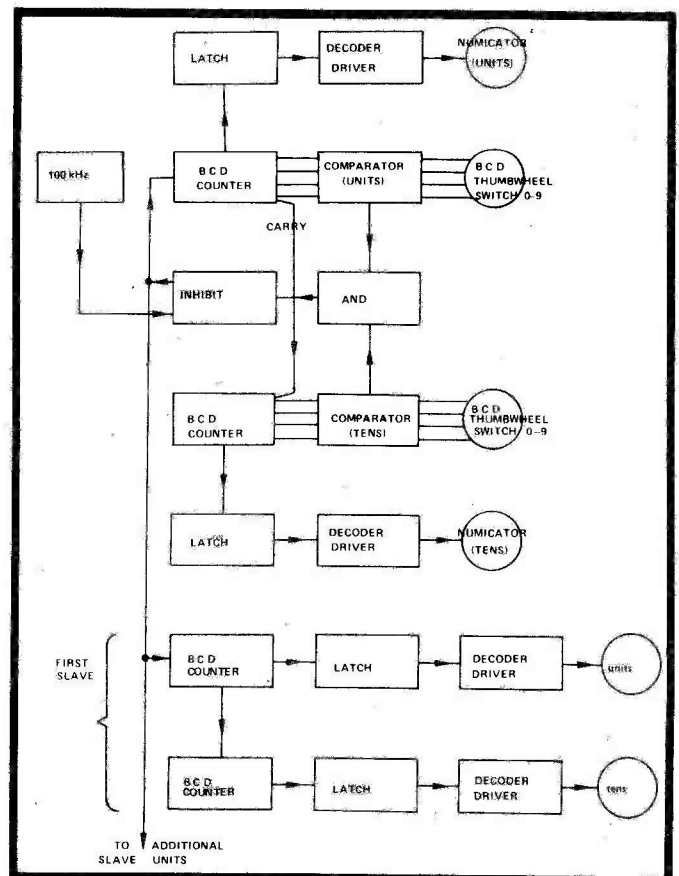

Fig. 1. A numicator-based paging system.
Broadly speaking there is a choice between sending a rapid pulse-train to count from zero to the number required when the master controls are set, or alternatively arranging for the slaves merely to copy the central indication, without going through all the intermediate numbers. The former method fits in more readily with the use of only two wires, apart from power supplies, between the master and each slave, since to send BCD numbers over two wires would call for scanning and serial transmission. One possible method using numicators for silent operation is outlined in Fig. 1 (see also ref. 3). In this method, a multivibrator or u.j.t. pulse generator operates continuously, but drives the counters only when the number displayed at all locations differs from that set up on central denary thumbwheel switches. When no call is wanted, the operator resets them to 0000, 000 or 00, depending on the number of digits in use. Owing to